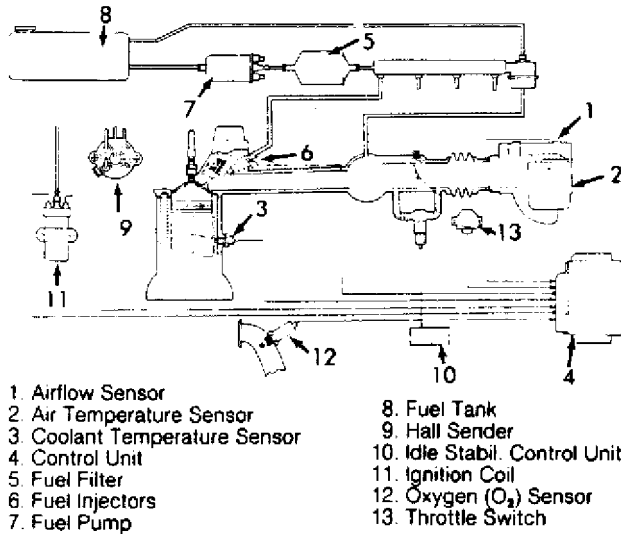

Fig. 11: Locating AFC-Digifant Components (Vanagon)
1) Turn ignition off. Attach DVOM to ignition coil primary terminals. Disconnect Hall Effect sender wire harness connector from distributor. See Fig. 11. Turn ignition on.